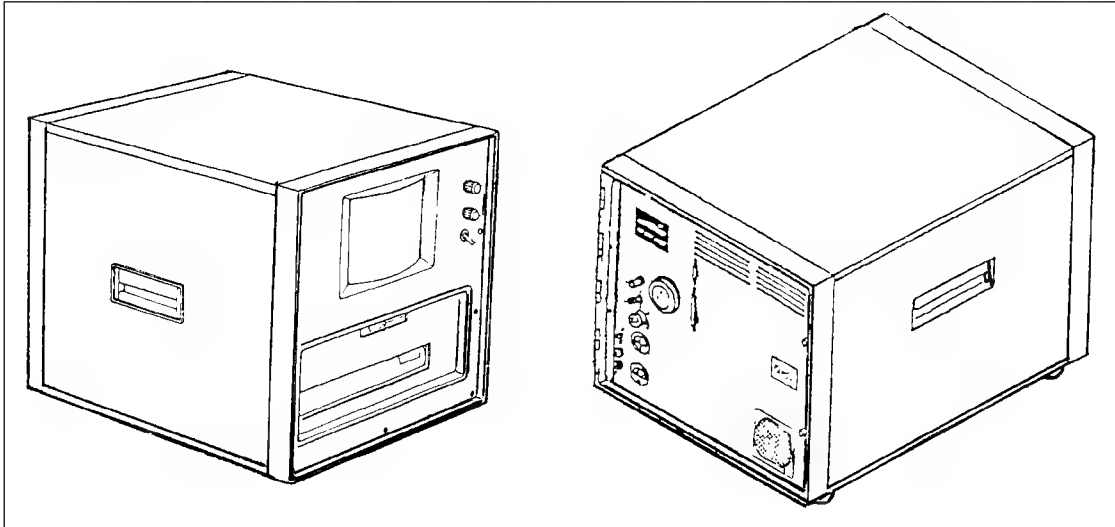

Figure 3-2. Instructor's console, Dragon gunnery trainer.
d. **Feedback.** The DGT enables the trainer to provide visual feedback to the firer in either of two ways. He can replay the mission on video, or he can print out two views (from the top and side) of the actual mission. Both show horizontal and vertical tracking errors and the firer's score. Figure 3-2 shows the instructor's console.